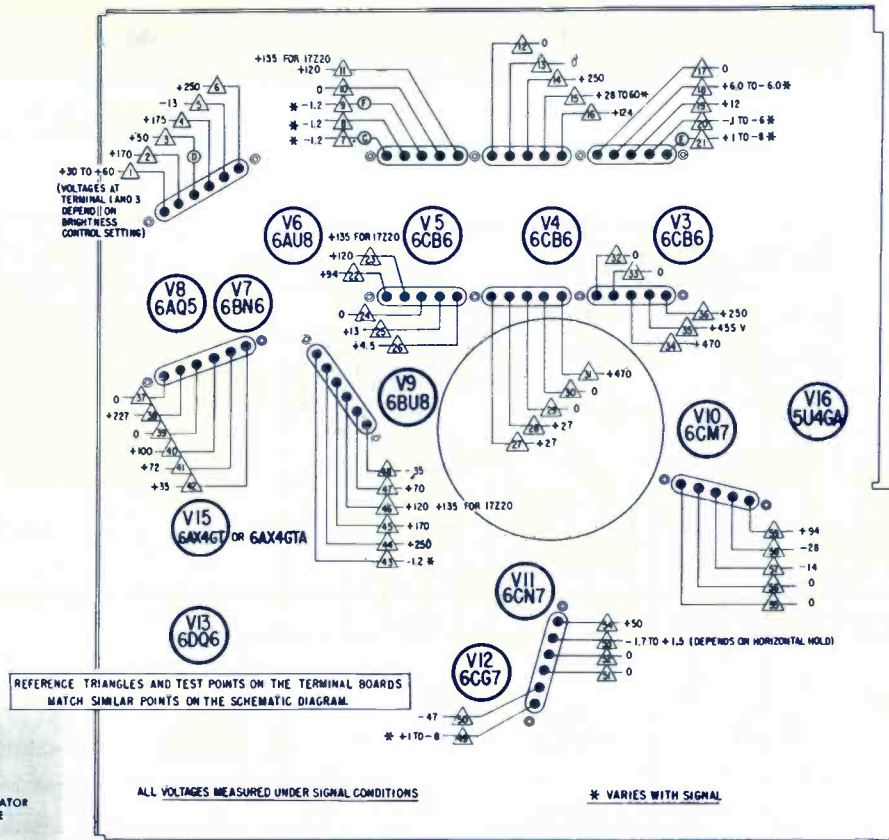

Fig. 3 IF-RF Alignment Fixtures
4. Connect the sweep generator through a terminating network similar to that shown in Fig. 3 to the grid (pin 1) of the third IF amplifier.